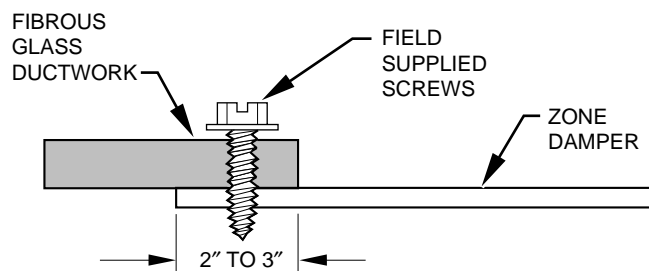

Fig. 7 — Rectangular Fibrous Glass Duct Work
1. Insert one end of zone damper into end of fibrous glass ductwork approximately 2 to 3 inches (See Fig. 7).